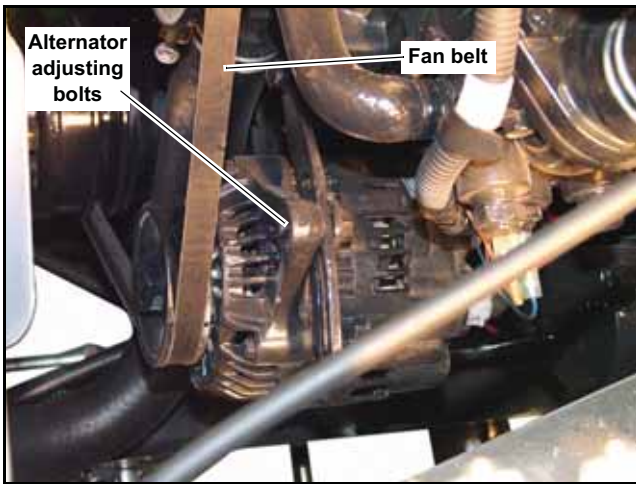

Figure 4-21
NOTE: Check the condition of the fan belt after every 50 hours of operation. Check fan belt tension after every 200 hours of operation. Figure 4-21
1. Loosen the alternator mounting bolts. Figure 4-21